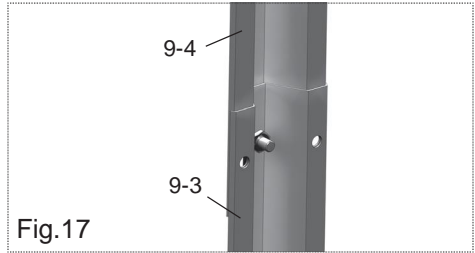
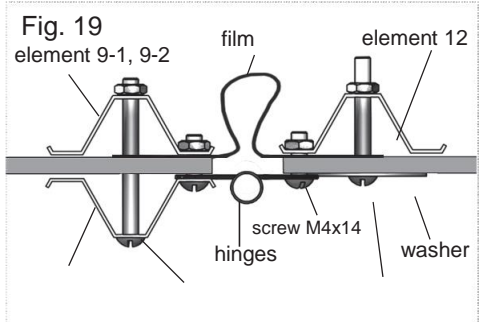

Fig.17
Fig. 19
4. Join elements 9-3 and 9-4 (Fig. 17) and mount them in accordance with Fig. 19. Press polycarbonate pieces by edges on the side of door and small window by cover plates 9-3, 9-4 (Fig. 19) leaving holes for rotators. Cut pieces of coverage for installation above door openings and install them fixing by washers (Fig. 22) on element 10.
7. Gaps in door opening should be covered by polyethylene film or isolon (Fig. 19, 20).